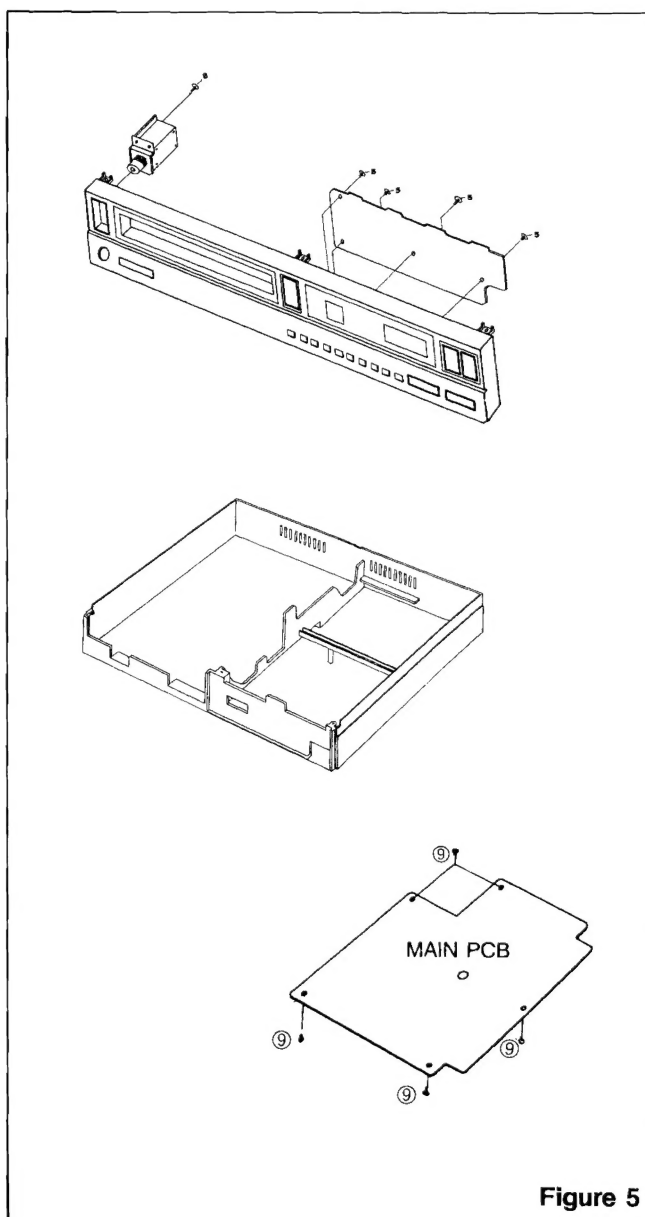

Figure 5
5. To Remove the P.C.B (Figure 5)
(Figure 5)